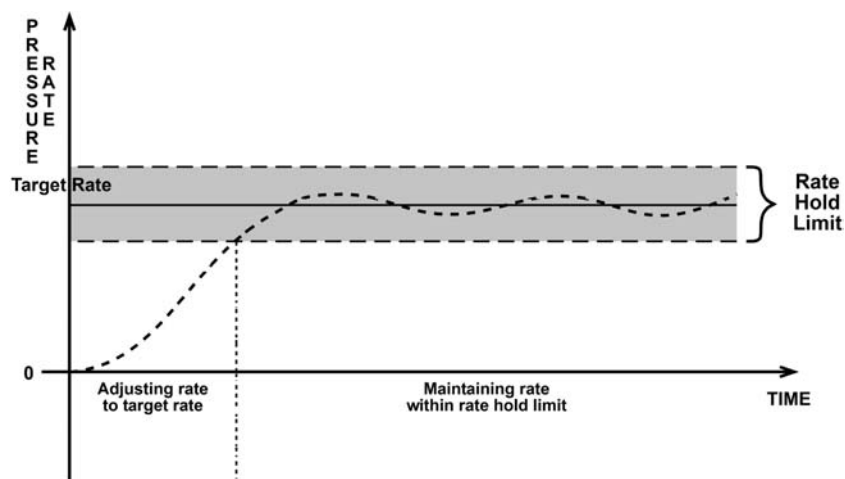

Figure 15. Ramp Pressure Control Operation
Ramp control is designed to set a pressure ramp at a target rate and maintain the rate within a rate hold limit (see Figure 15). This control mode can be used for a variety of calibration and testing functions.
*Note that Figure 15 plots rate of change of pressure, not pressure.